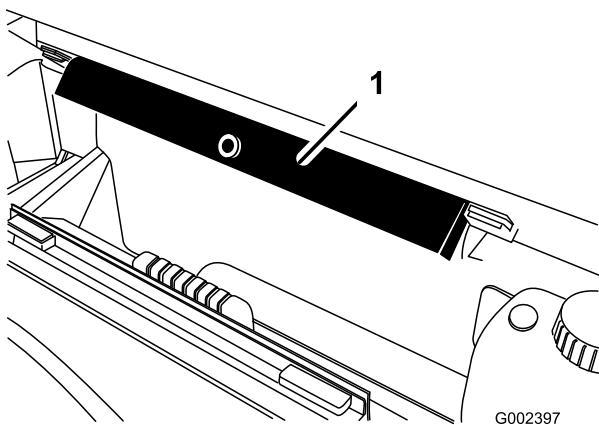

Figure 25
2. Remove the bed support from the storage brackets on back of the ROPS panel (Figure 25).